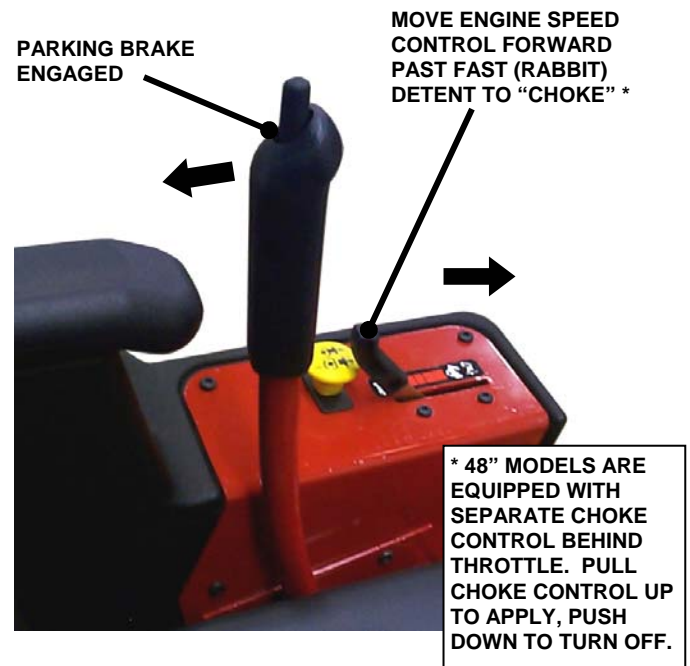

FIGURE 2.6
2. Make certain the blade switch is in the "Off" position. See Figure 2.6.
5. On 42" models, move engine speed control forward past the "Fast" (Rabbit) position to "Choke". See Figure 2.6.
6. On 48" models, move engine speed control forward to the "Fast" (Rabbit) position and apply separate choke. See Figure 2.6.